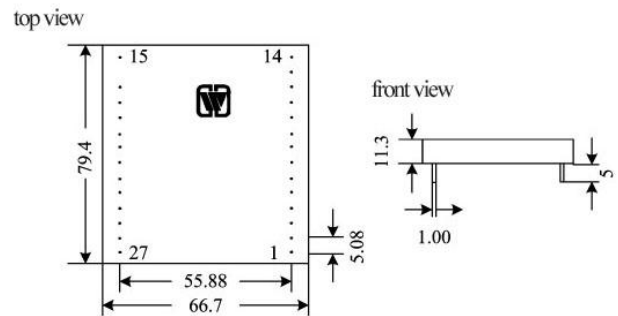

Fig.10 Outside view of package
**10 External dimensions and description of package of synchro to digital converter or resolver to digital converter (unit: mm) (Fig.10)**